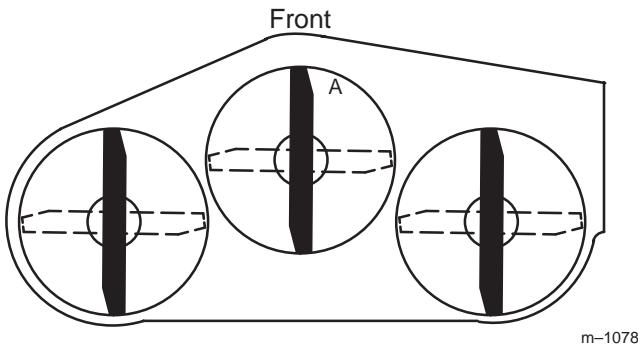
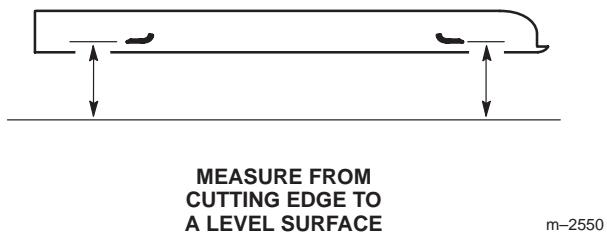

Figure 63
Figure 64
3. With the machine on level surface, position one blade front-to-rear (Fig. 63). Measure at A and from level surface to the cutting edge of the blade tips (Fig. 64).